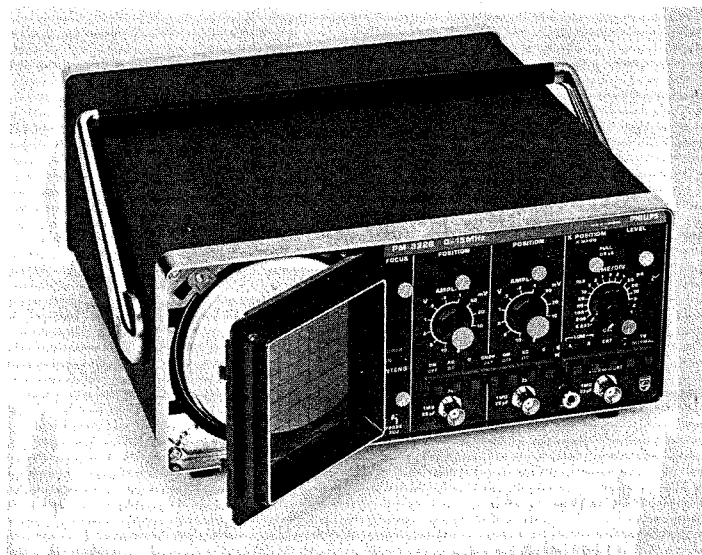

Fig. 2.5. Removing bezel and graticule
- to extract bezel, swivel out by applying slight pressure to the left-hand edge (see Fig. 2.5.).